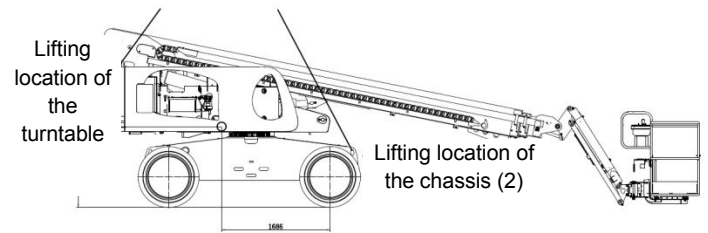

Figure 10-5 Schematic diagram of connection during machine lifting
- 4) Secure the turntable using the turntable lock. Determine the center of gravity of the machine using data in Figure 10-5.